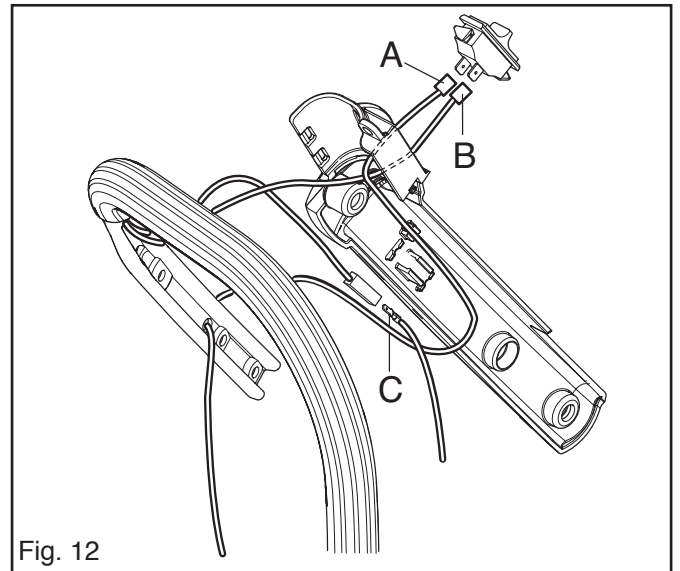

Fig. 12
6. Dismantle the cables (A) and (B) on the heater switch. Loosen connection (C). See fig. 12.
1. Remove the switch and disconnect the cables. See fig. 12.